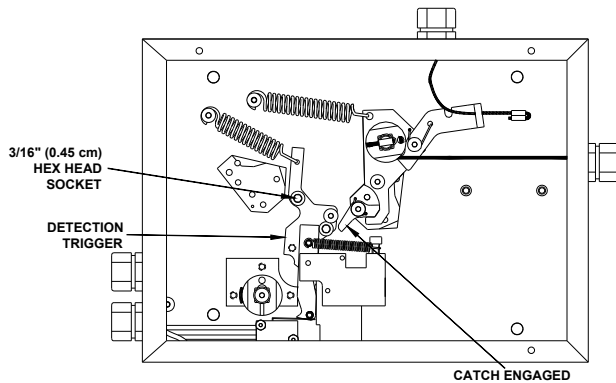

Figure 4-47.
1. Locate the 3/16" (0.5 cm) hex head socket on the Detection Trigger See **Figure 4-47**.